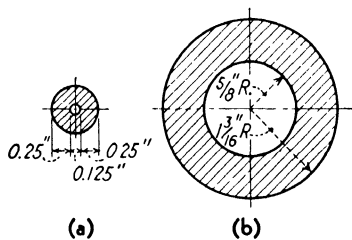

Fig. 80.
10. Find the area of one side of the washers shown in Fig. 80.